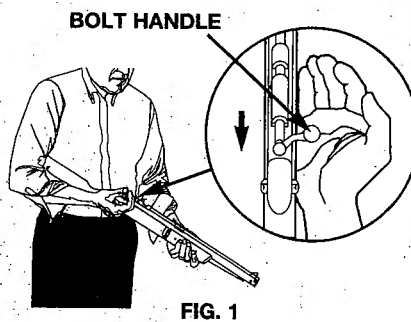

FIG. 1
- Push bolt handle up and then pull it all the way to the rear. (Fig. 1)